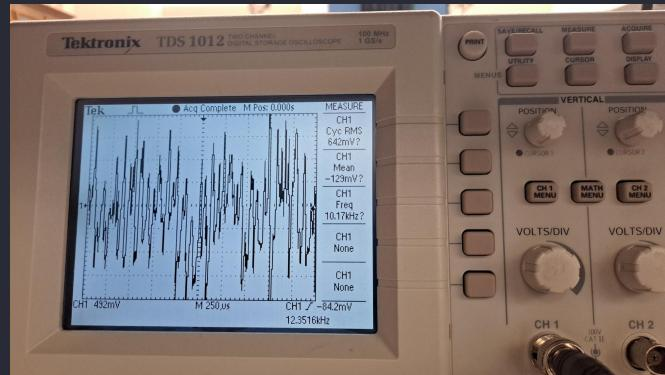

Figure 1.12: Sample measurement of $V_T = 642$ mV on TDS1012
- Finding rms voltage on scope: Go to SETTINGS; ACQUIRESE; SAMPLE; AVERAGE (16). Then take 20 samples and average them (refer to Fig. 1.12).